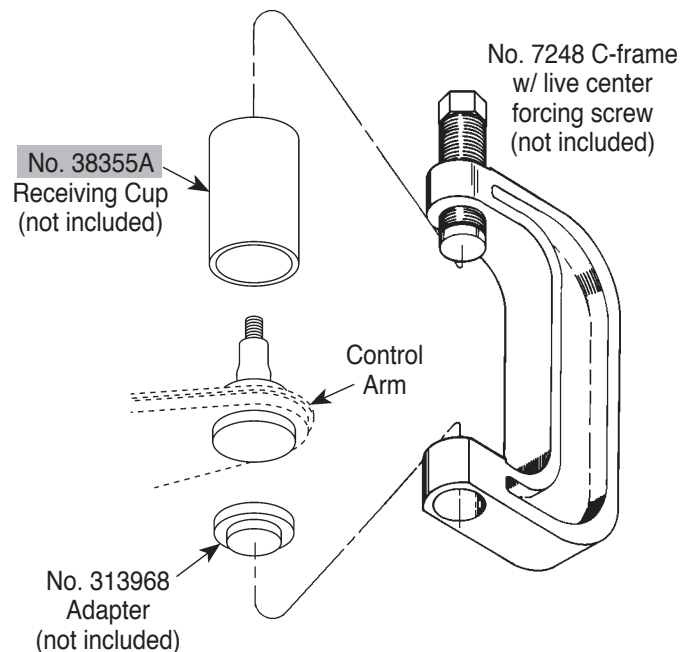

Figure 4—Installation
3. Assemble the ball joint press components as shown in Figure 4. Check the alignment of all tooling and components. Tighten the forcing screw until the ball joint is firmly seated.